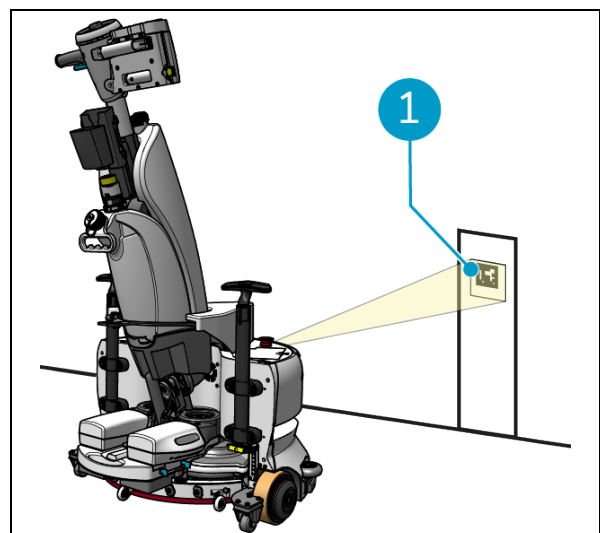

Figure 27
1. Position the i-walk about 30 cm in front of the QR code (Figure 27, pos. 1). The Teach Repeat button will flash blue when the QR code is recognized.